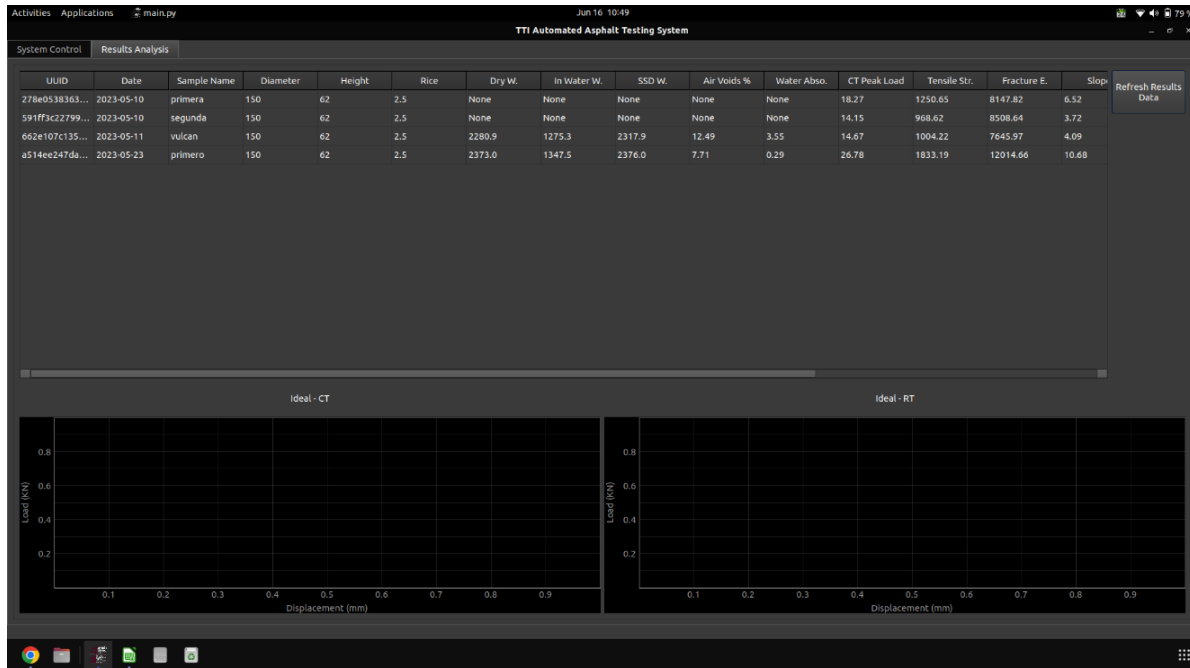

Figure 27. Presentation of Test Results
- Present Test Results.** Once the testing process is initiated using the AMAZE testing software, the system will automatically conduct tests on each specimen. As each specimen is tested, its results are immediately recorded and displayed in the results table, which can be found under the Results Analysis tab. Figure 27 shows the tab. In addition to the results being displayed on the Results Analysis tab, all of the raw data are saved to a folder named Result Folder under the AMAZE folder.